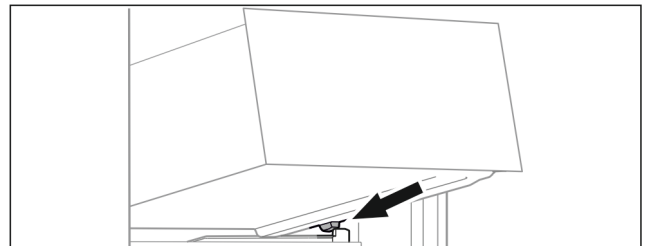

Fig. 64
- ▶ Place drawer at an angle behind the stoppers on the moulded rib. (see Fig. 64)